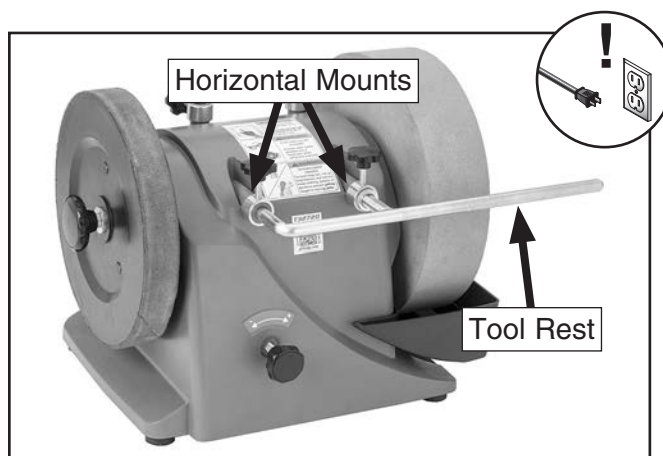

Figure 24. Tool rest installed in horizontal mounts.
3. Install tool rest in horizontal mounts shown in **Figure 24**. Be sure rest is secure and will not move while grinding.